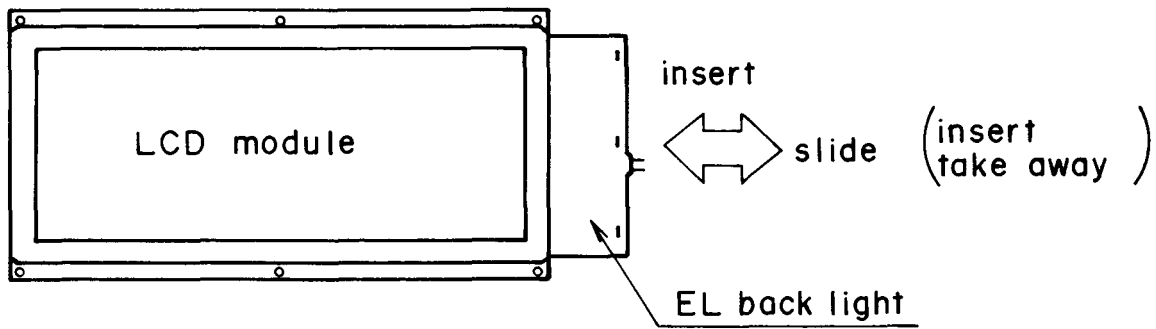

Figure B-3. EL Removal
3. Slide and pull out EL back light from the right side. See Fig. B-3.
See Fig. B-3 and B-4.